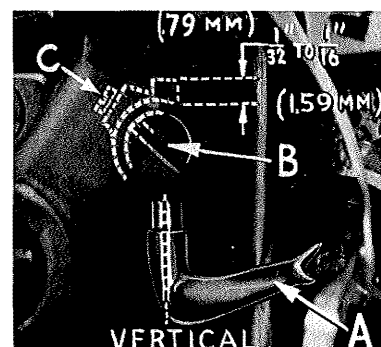

Fig. 8A
Insert upper spreader (A, Fig. 8A) in its holder. Screw (B) holds upper spreader in its holder, and permits it to be pushed in or out or turned around its shank. Insert spreader holder into spreader shaft, if it is not already in place. Screw (C, Fig. 8A) on clamp collar holds spreader holder in the shaft, and allows holder to be rotated or adjusted laterally.
**Preliminary Setting:** When upper spreader is at the right end of its stroke, spreader holder should be set to position spreader shank about vertical (Fig. 8A). Top end of spreader shank should extend 1/32 to 1/16 inch (.79 to 1.59 mm) above the spreader holder (Fig. 8A).